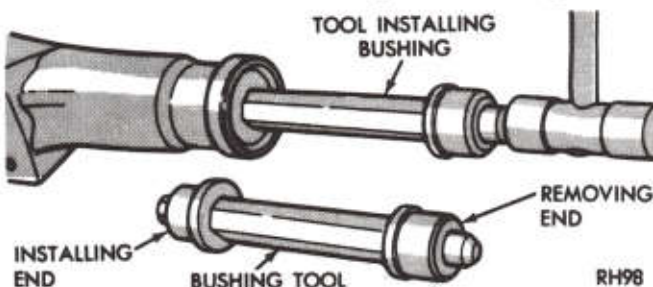

Fig. 29—Replacing Extension Housing Bushing
(1) Remove extension housing yoke seal.
(2) Drive the bushing out of housing (Fig. 29) with Tool C-3974.
(3) Slide a new bushing on installing end of Tool C-3974. Align oil hole in bushing with oil slot in housing, then drive bushing into place (Fig. 29).